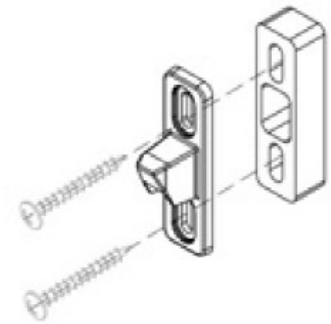

Figure 25
37. The box screen keeper (Item 30) must be installed with the screen spacer (Item 31; Figure 25). Attach the keeper using two screws (Item 44).